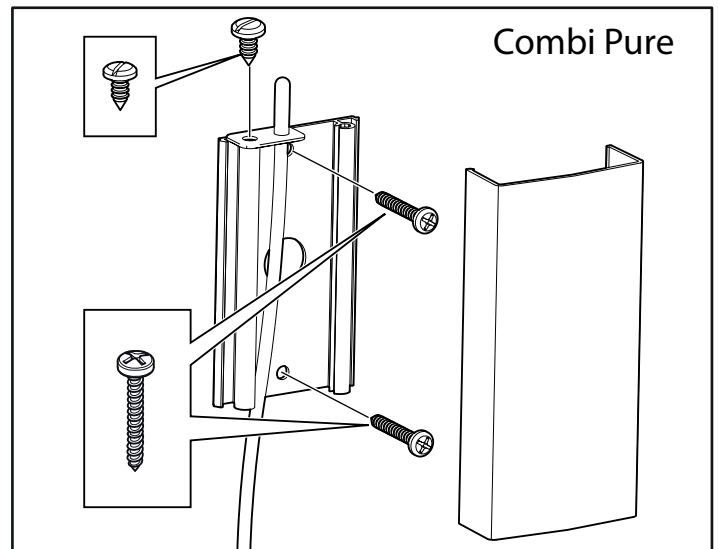
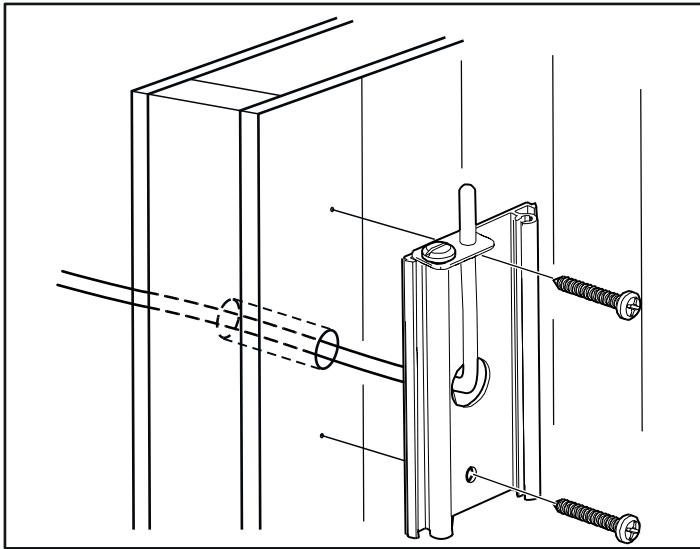

Fig 15: Installing the sensor - Combi Pure.
Fig 17: Wiring through the wall - Combi Pure.
12. Install the sensor on the wall see Fig 15 and 16. The thermistor wire may also be passed through the wall see Fig 17 and 18. Seal any holes in the wall behind the sensor. The thermistor wire may be extended outside the sauna using low voltage wire (2-lead).